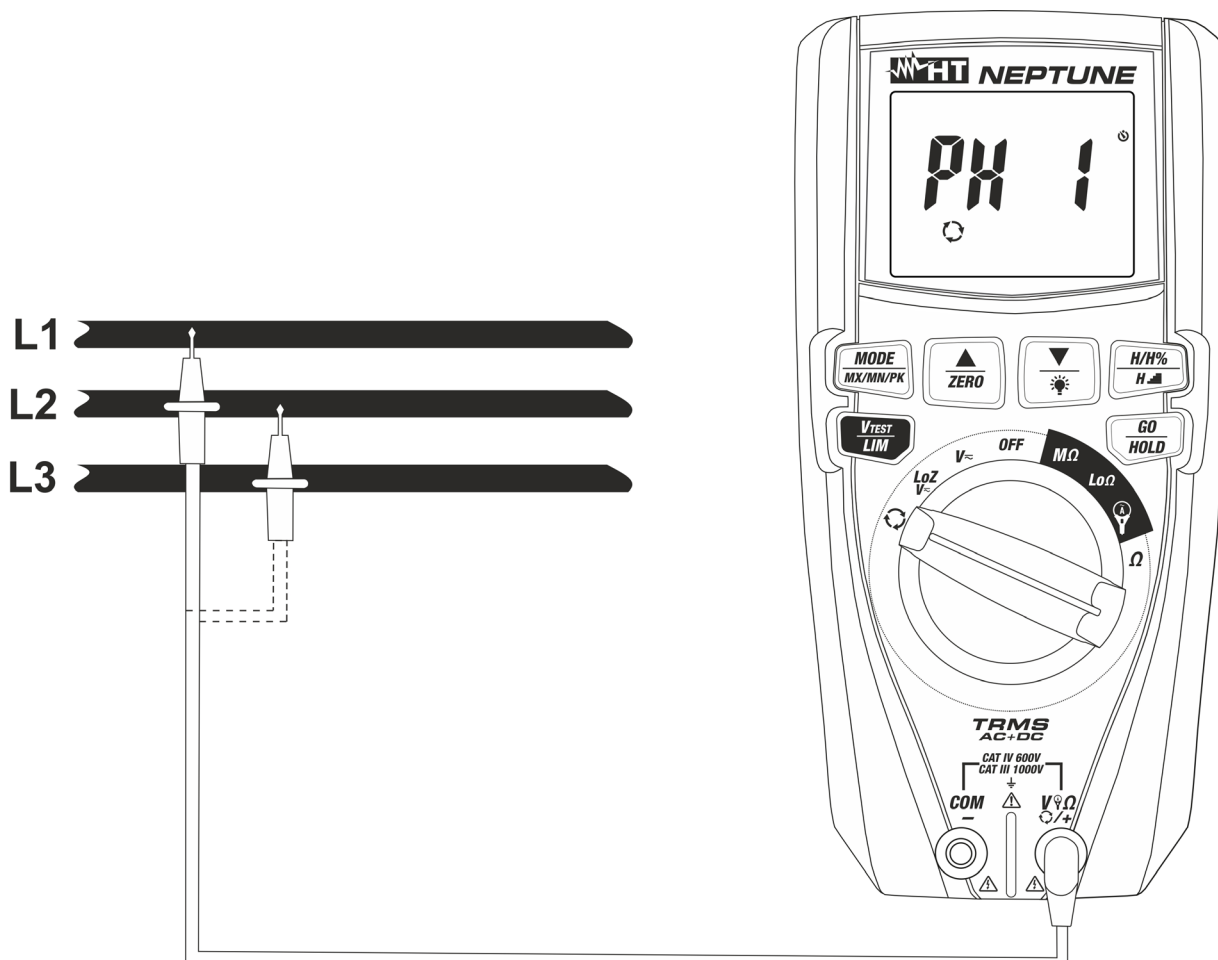
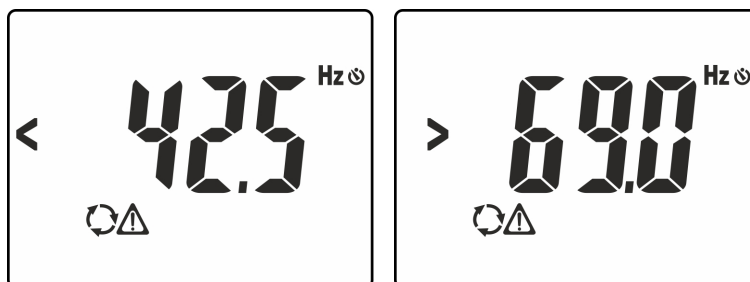
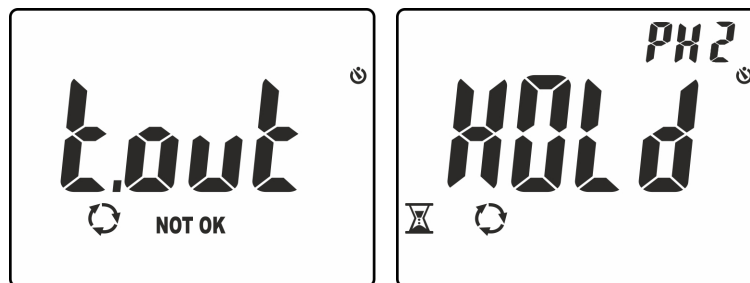

Fig. 10: Use of the instrument for phase sequence and phase concordance test
Fig. 11: Signal of voltage with wrong frequency
Fig. 13: Detecting phase L1 and waiting for phase L2
- Position the red lead onto phase **L1** of the three-phase system to be tested (see Fig. 10). The following messages may appear on the display (see Fig. 11) to identify the presence of a voltage signal with frequency out of range $42.5Hz \div 69Hz$. In these conditions, the instrument does not perform the test.
6. Position the red lead onto phase **L2** of the three-phase system to be tested (see Fig. 10). In case passage between phase L1 and phase L2 takes more than **10s**, the instrument shows message “**t.out**” on the display (see Fig. 13 – left side). In conditions of correct voltage and frequency, the instrument shows message “**HOLD**”, symbols  and “PH2” and the buzzer sounds continuously, waiting for a stable voltage value on phase L2 to be detected (see Fig. 13 – right side).